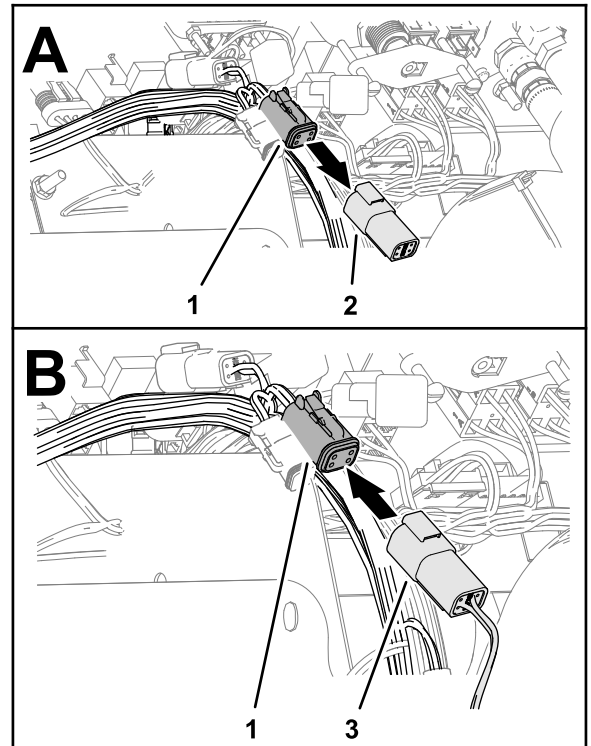

Figure 168
2. Remove the ISO bus terminator from the 4-socket connector of the GeoLink harness labeled CAN 1 ISOBUS TERMINATOR (Figure 168).
3. Plug the To ISOBUS connector of the ISO-CAN bus harness into the CAN 1 ISOBUS TERMINATOR connector of the GeoLink harness (Figure 168).